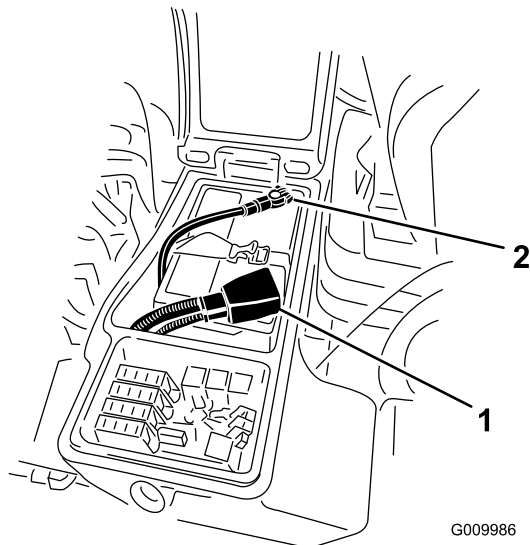

Figure 53
3. Remove the negative cable (black) from the negative (-) terminal and the positive cable (red) from the positive (+) terminal of the battery (Figure 53).
6. Install the positive cable (red) to the positive (+) terminal and the negative cable (black) to the negative (-) terminal of the battery (Figure 53).